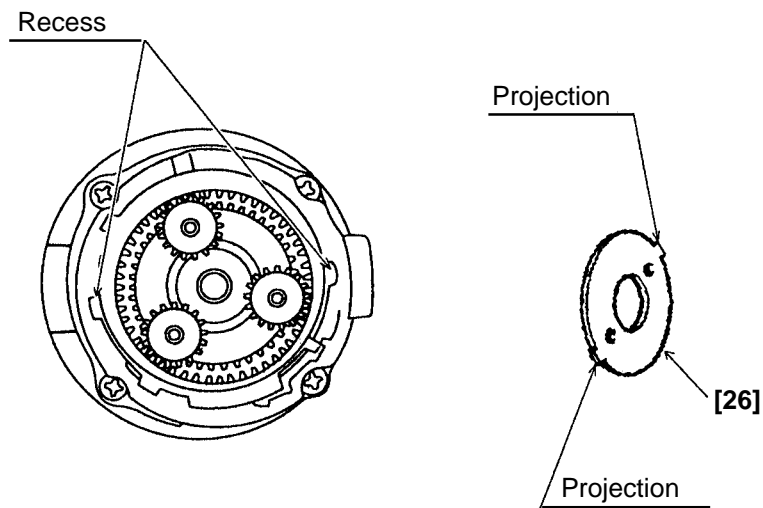

Fig. 8
(ii) Install Washer (B) [26] in the Rear Case [17] with the projections of Washer (B) [26] engaged with the recesses in the Rear Case [17], and turn Washer (B) [26] clockwise until it can turn no further. (See Fig.8.)